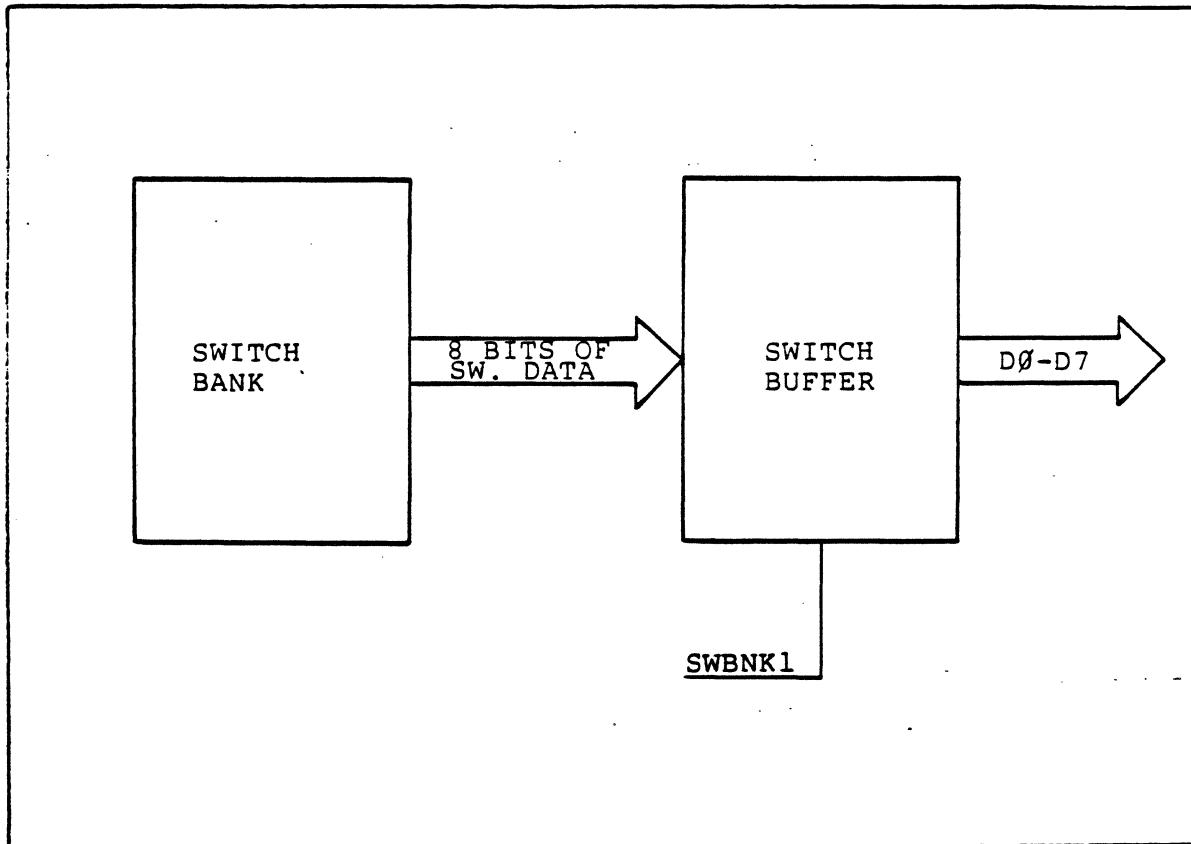

Figure 6-11. System Configuration Switches
**6.3.6 System Configuration Switches (Figure 6-11;